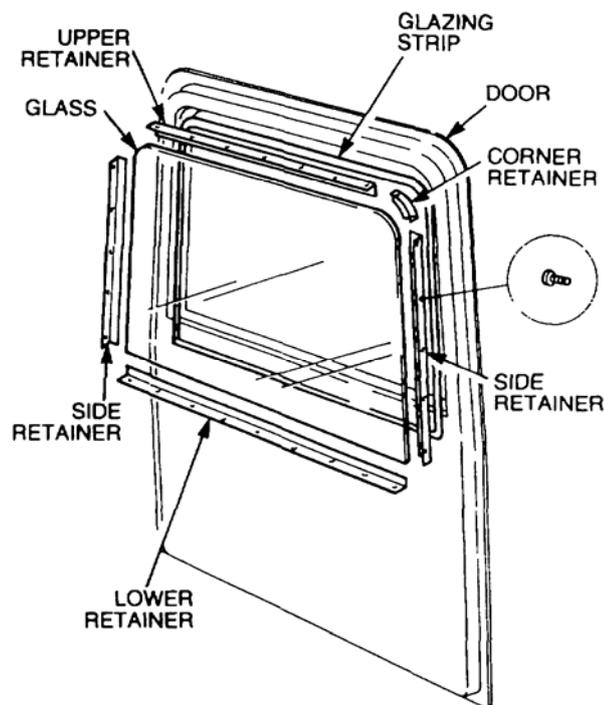

Figure 38 Rear Door Glass Removal
- Remove the retainer (refer Figure 38).
- Install a new glazing strip (refer Figure 38) on the inside of the window.